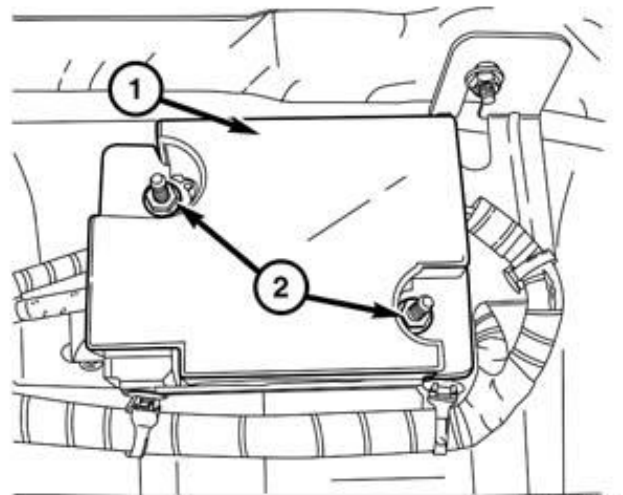

Figure 3 – NOx Sensor Module
8. Remove the nuts (2) and NOx sensor 1/2 module cover (1) (Figure 3).